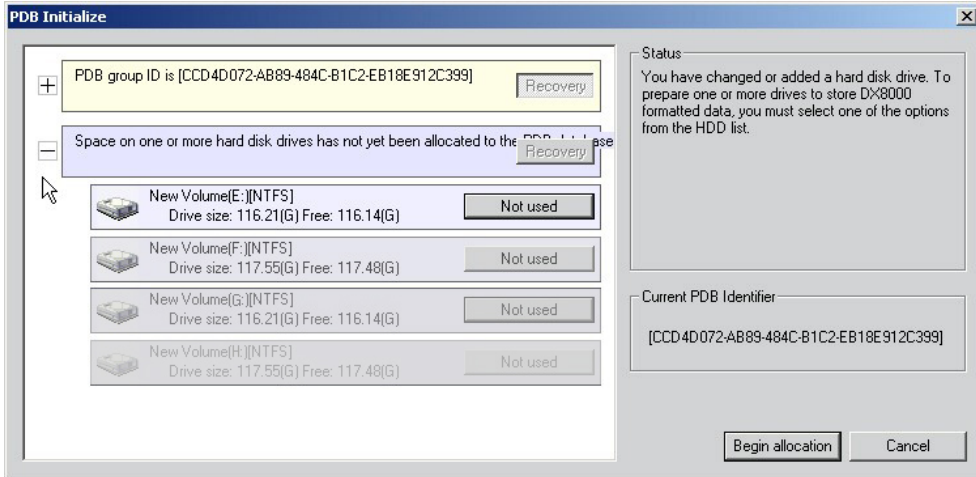

Figure 23. Opening Drive Options Menu
- b. For each drive listed, click the Not Used button. Refer to Figure 23. A drop-down menu appears. There may be more than one drive listed, as shown in the figure below.